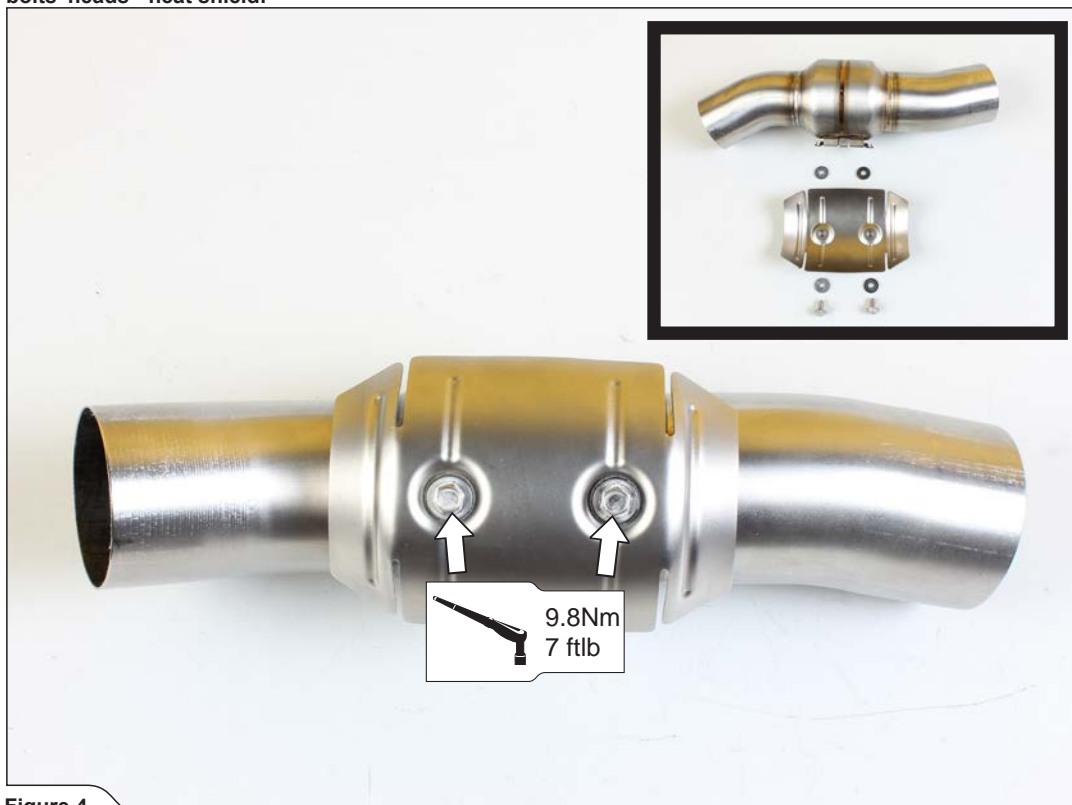

Figure 4
1. Assemble the heat shield onto the link pipe, using bolts and heat resistant washers from Akrapovič installation kit (Figure 4).